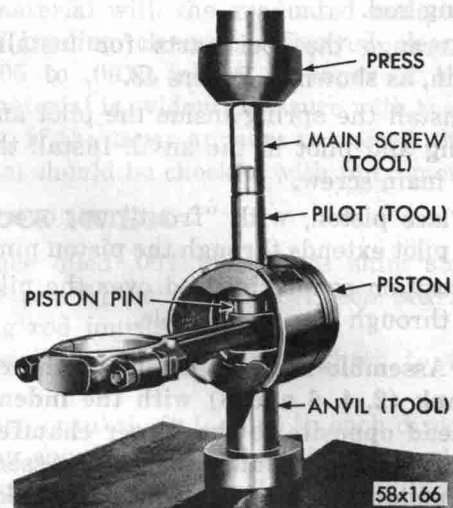

Fig. 47—Removing Piston Pin from Connecting Rod
(2) Install pilot on the main screw.
(3) Install the screw through the piston pin.
(4) Install anvil over the threaded end of the main screw with small end of anvil against the piston boss. **Be sure spring is removed from the anvil.**
(5) Install nut loosely on the main screw and place the assembly on a press, as shown in Figure 47.
(6) Press the piston pin out of connecting rod. **When the pin falls free from connecting rod, stop the press to prevent damage to bottom of the anvil.**
(7) Remove the tool from the piston.